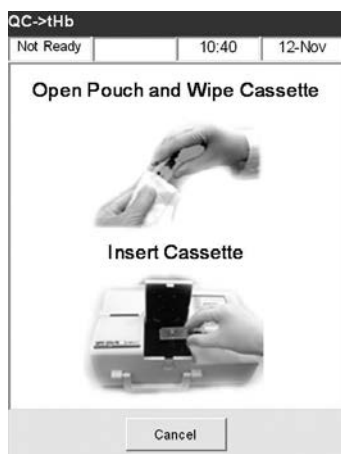

Fig. 2-20 Wipe and Insert Cassette
- Gently wipe both sides of the Calibrator Cassette with a clean dry cloth and examine it to ensure it is clean. Insert it into the chamber and press down to properly seat the cassette (Fig. 2-20).